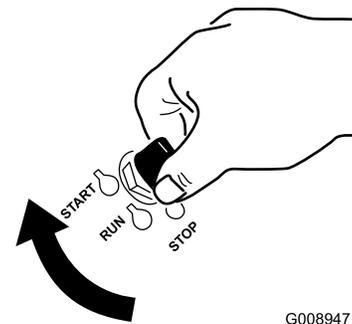

Figure 18
7. Turn the ignition key to the Start position (Figure 18). When the engine starts, release the key.